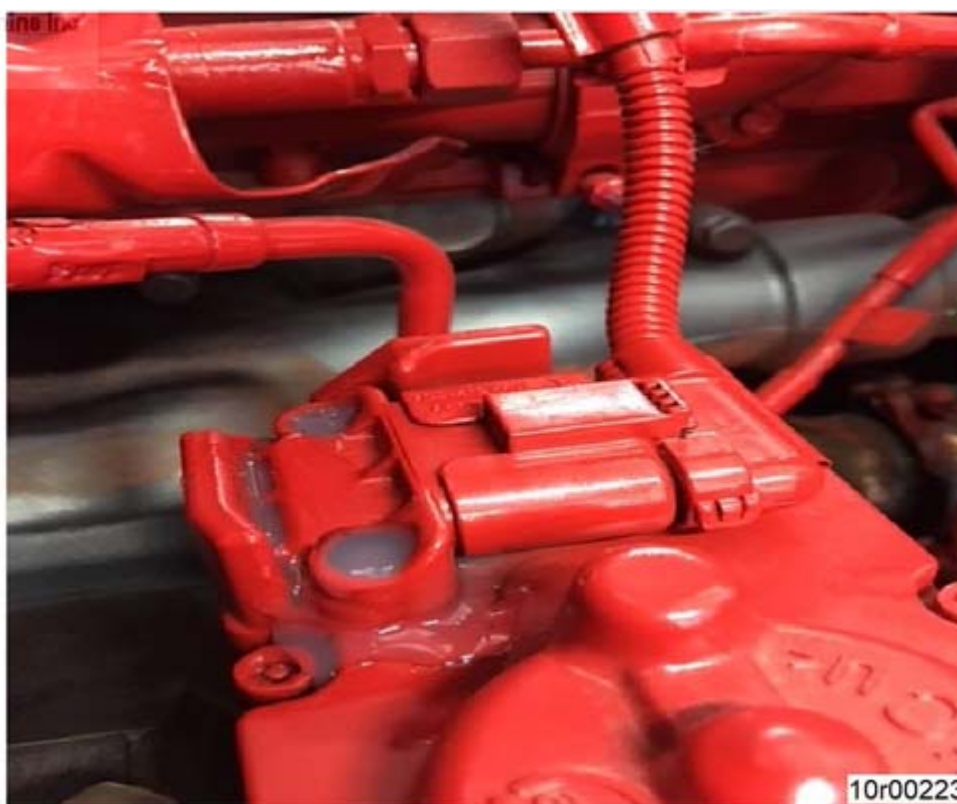

Figure 2, VGT Actuator After Repair.
- Application of Permatex® silicone is to form an external secondary waterproof seal around plastic connector including under connector. See Figure 2 below.